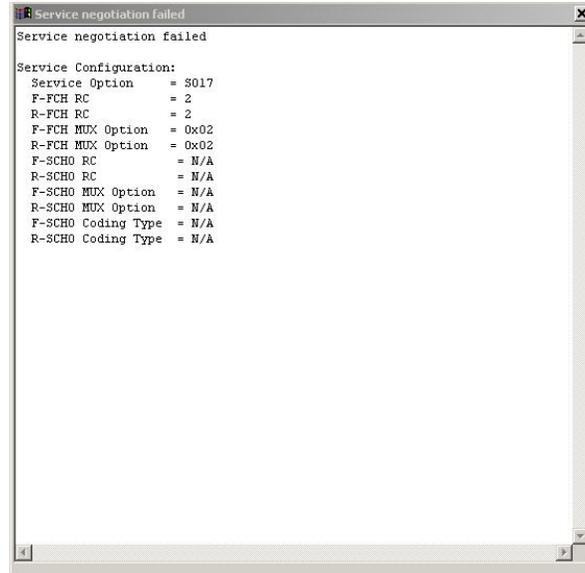

Figure 4-44: Service Negotiation Results
AirAccess supports renegotiation of a service configuration after a call is established. This is accomplished via the Configure Service Negotiation window shown in Figure 4-44.
5. Double-click on this indicator to view the details of the service configuration in effect after the service renegotiation, as shown in Figure 4-44.